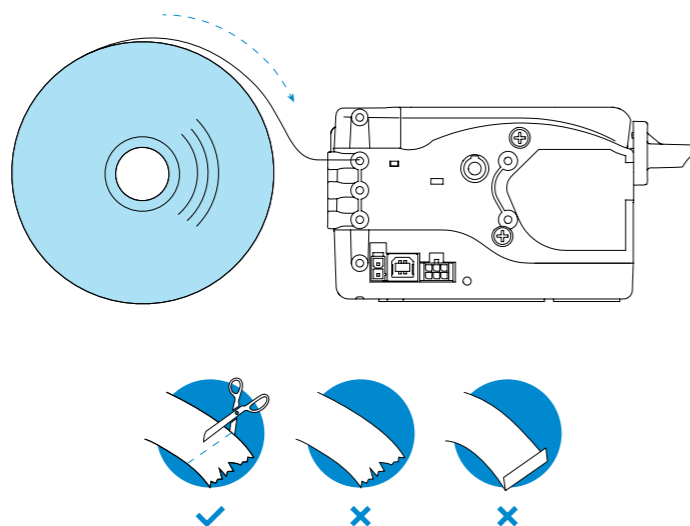

Fig. 8.7. Instruction for adding a roll of paper to the printer
3. Insert the end of the paper into the paper feeder as shown in Figure 8.7 and wait until the receipt tape starts to scroll automatically